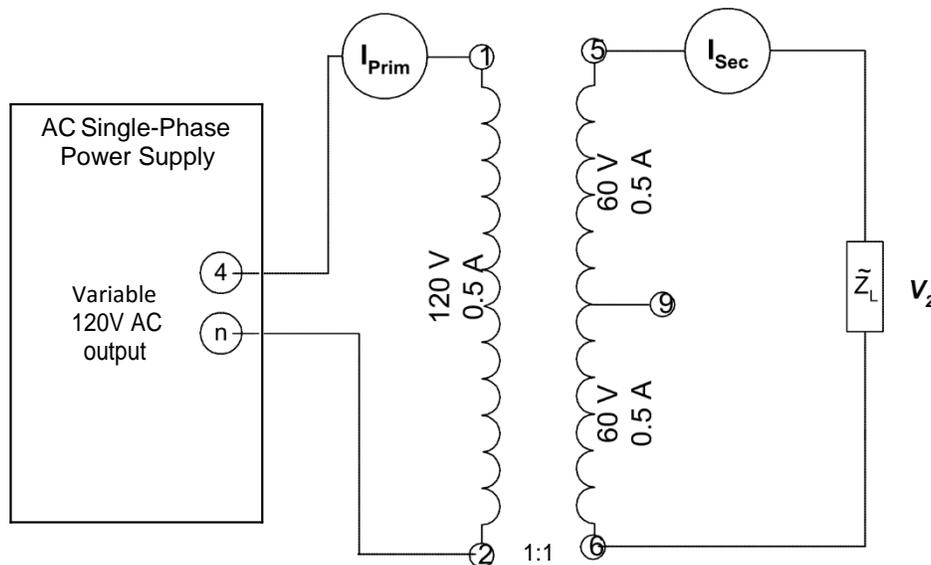

FIGURE 4.20
Step 1: Without placing any load, Connect the circuit shown in Figure 4.20. Set the power supply to 120 Vac.